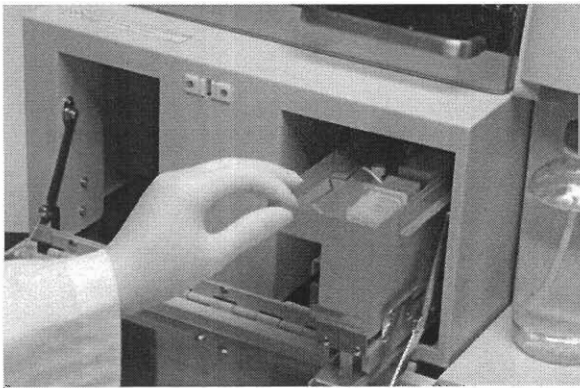

Figure 2-D
1. The loading drawer (Fig. 2-D) can be positioned in the lower, right section of the coverslipper. Open the door to expose the loading area. Position the drawer securely along the guide rails by engaging the locating pin on the loading drawer with the slots on the guide rails. Make sure the drawer can move forward and back smoothly. This area is used for loading slide baskets prior to coverslipping. The loading drawer also keeps the slides from drying prior to coverslipping.